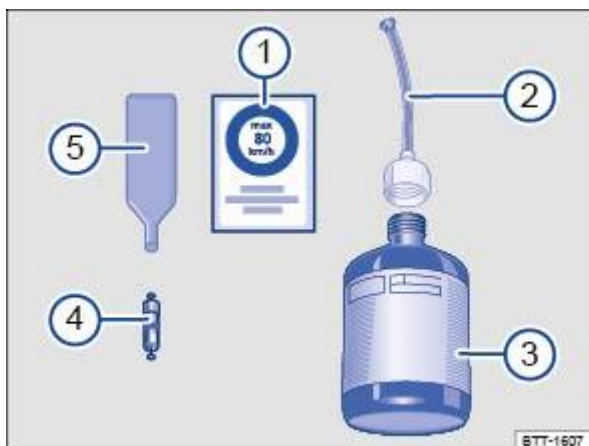

Fig. 208 Illustration: components in the breakdown set
The breakdown set consists of the following components ⇒ Fig. 208 :
- ② ① On/off switch
- ② ② Air bleed screw
- ② ③ Tyre pressure display
- ② ④ Tyre filler hose
- ② ⑤ 12-volt plug
- ② ⑥ Air compressor
There is a slot on the lower end of the valve core extractor ⇒ Fig. 208 ⑤ for the valve core. This is required for extracting the valve core from the tyre valve and then screwing it back in. This also applies to the spare valve core ④.
☐ Use the valve core extractor ⇒ Fig. 208 ⑤ to unscrew the valve core from the tyre valve. Place the core on a clean surface.
☐ Shake the tyre filler bottle ⇒ Fig. 208 ③ vigorously to and fro several times.
☐ Screw the filler hose ⇒ Fig. 208 ② tightly onto the tyre filler bottle in a clockwise direction. The plastic foil on the closure is pierced automatically.
☐ Remove the plug from the filler hose ⇒ Fig. 208 ② and place the open end fully on the tyre valve.
☐ Use the valve core extractor ⇒ Fig. 208 ⑤ to screw the valve core back into the tyre valve.